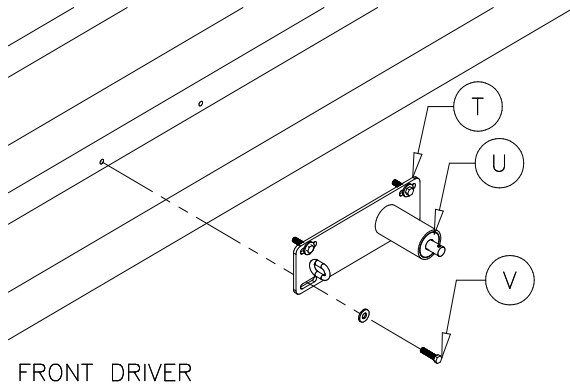
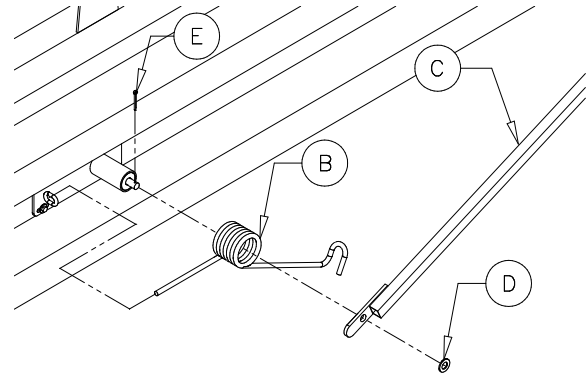

Figure 14
Figure 15
Using a 3/8" drill bit, drill through the center of the slots in the bracket (T) and through the box wall. Fasten the pivot arm bracket to the box with the 3/8"x1-1/2" hex bolt (V), 3/8" flat washers, and 3/8" nylon lock nuts provided (see Figure 14). Slide the helical torsion spring (B), bottom pivot arm (C), and 3/4" flat washer (D) on the pivot arm end (U). Insert and lock the cotter pin (E) (see Figure 15).